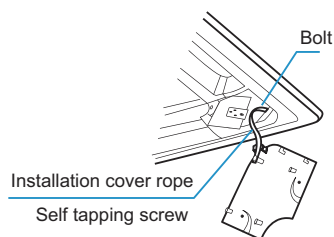

Figure 3.20
- (1) Secure the installation cover rope onto the bolt on the installation cover with screws. See Figure 3.20.